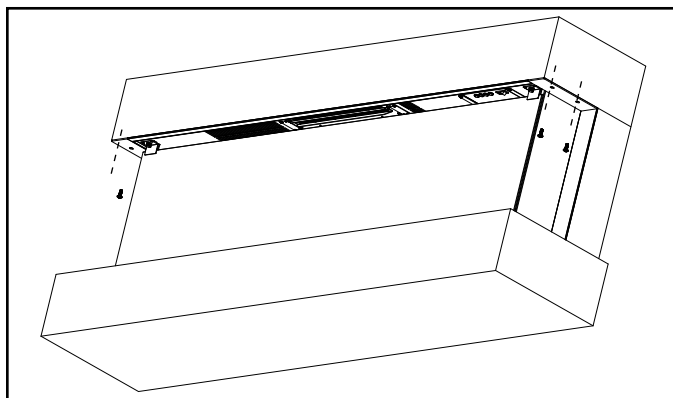

Figure 19
11. Secure the top mantel to the side brackets using two (2) M6*16 screws on each side. See Figure 19.